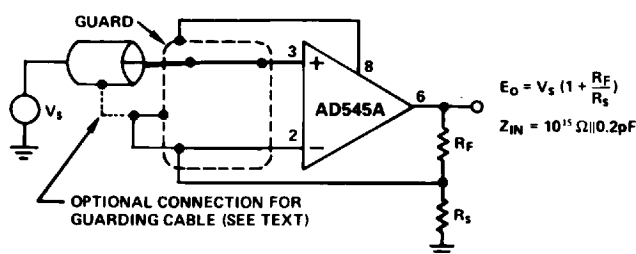
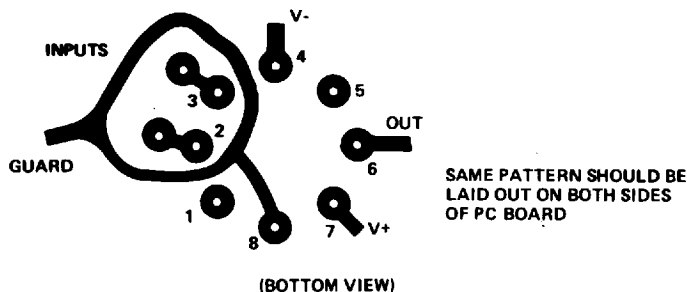

Figure 2. Very High Impedance Noninverting Amplifier
Figure 10. Board Layout for Guarding Inputs with Guarded TO-99 Package
2. The use of guarding techniques is essential to realizing the capability of the low input currents of the AD545A. Guarding is achieved by applying a low impedance bootstrap potential to the outside of the insulation material surrounding the high impedance signal line. This bootstrap potential is held at the same level as that of the high impedance line; therefore, there is no voltage drop across the insulation, and hence, no leakage. The guard will also act as a shield to reduce noise pickup and serves an additional function of reducing the effective capacitance to the input line. The case of the AD545A is brought out separately to Pin 8 so that it can also be connected to the guard potential. This technique virtually eliminates potential leakage paths across the package insulation, provides a noise shield for the sensitive circuitry, and reduces common-mode input capacitance to about 0.8pF. Figure 10 shows a proper printed circuit board layout for input guarding and connecting the case guard. Figures 2 and 3 show guarding connections for typical inverting and noninverting applications. If Pin 8 is not used for guarding, it should be connected to ground or one of the amplifier's power supplies to reduce noise.
3. Printed circuit board layout and construction is critical for achieving low leakage performance. The best performance will be realized by using a teflon IC socket for the AD545A but at least a teflon stand-off should be used for the high-impedance lead. If this is not feasible, the input guarding scheme shown in Figure 10 will minimize leakage as much as possible and should be applied to both sides of the board.